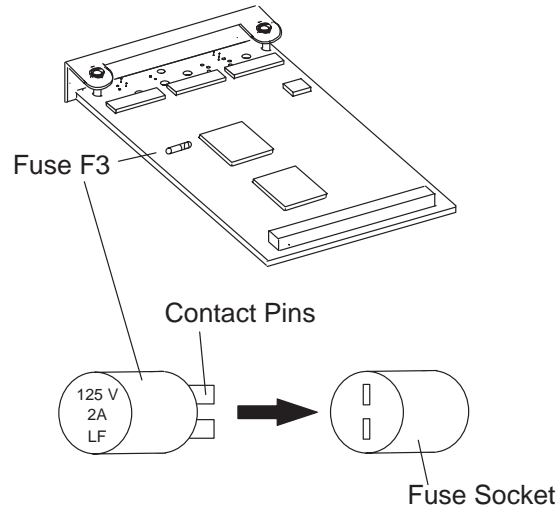

Figure 3–1. Replacing Fuse F3
3. Inspect and if necessary replace fuse F3 as shown in Figure 3–1. The fuse has no polarity, so fuse can be oriented in either position in the socket.